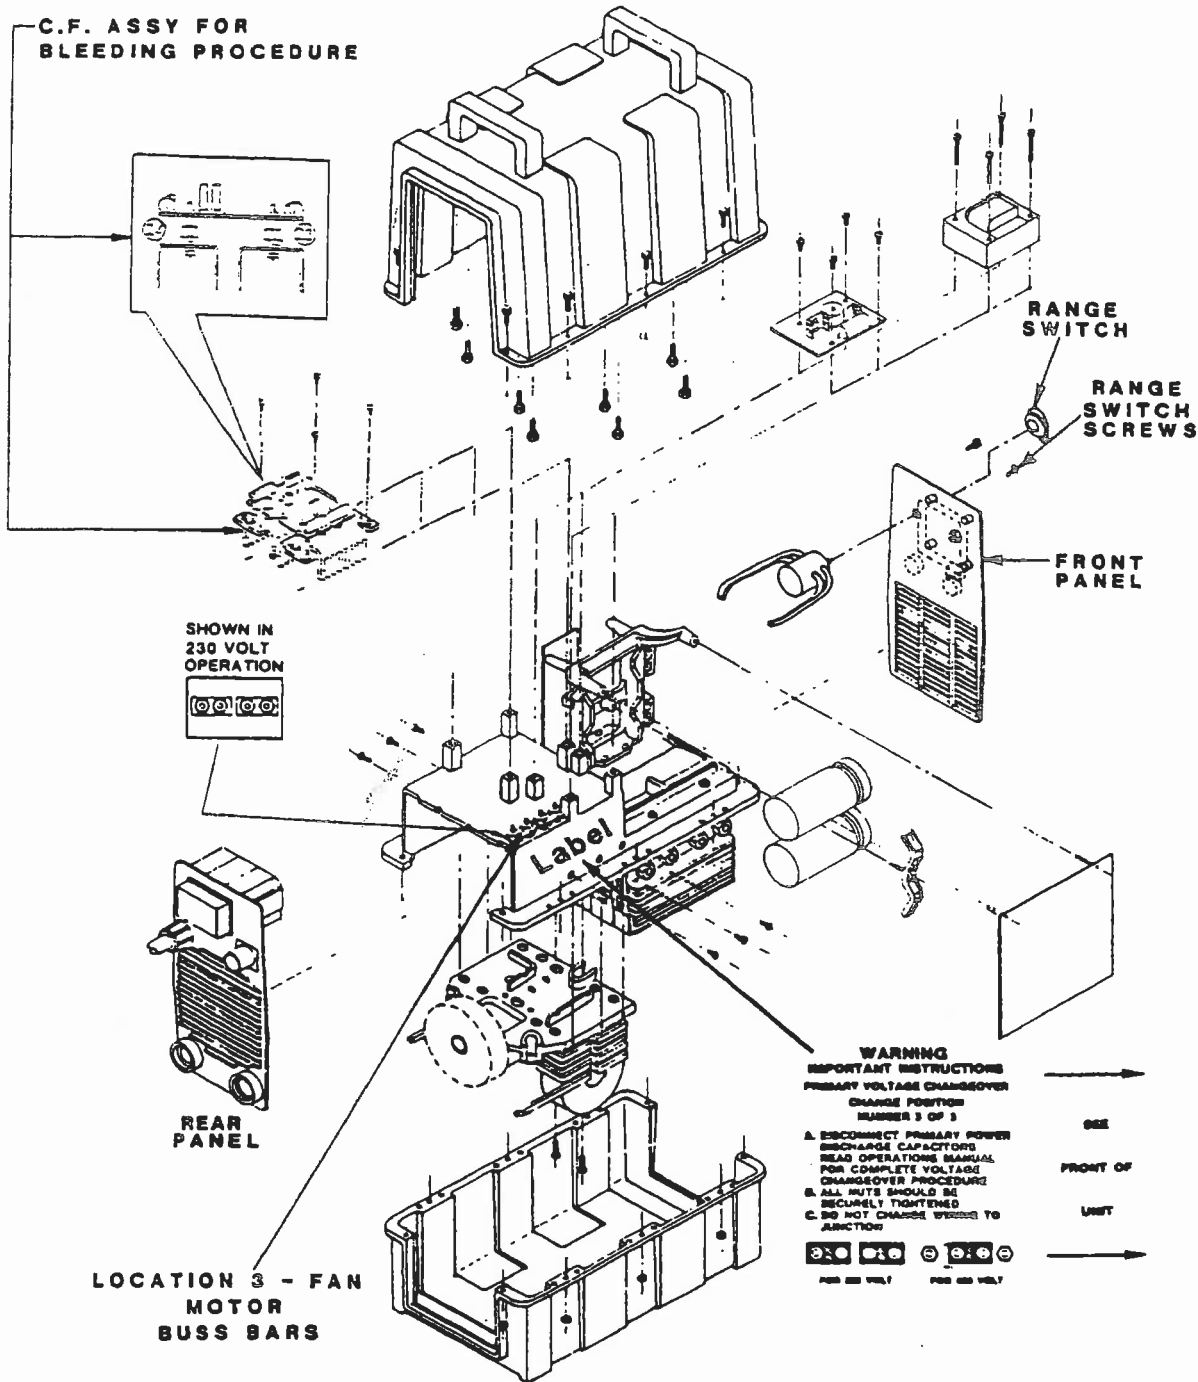

Figure 4, Location 3 Voltage Changeover
- 3) Copper buss bars for fan motor (left rear side of unit, see Figure 4.)
- A) Locate and read the instruction label for the copper buss bars shown in Location 3 of Figure 4.
- B) Locate the C.F. assembly inside the unit as shown in Figure 4. The C.F. assembly can be identified by two aluminum heatsinks which contain three diodes each.